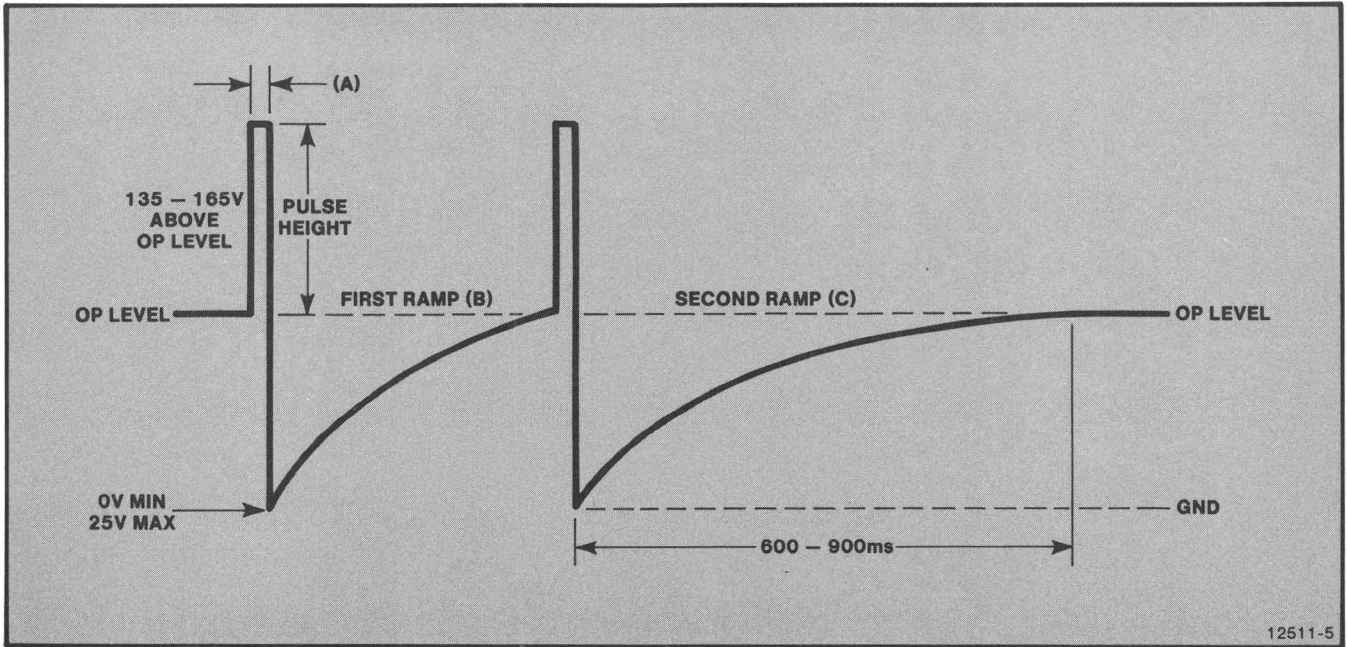

Figure 4-5. Target Erase Waveform.
10. **Refer** to the target erase waveform (Figure 4-5) and do the following:
12. **Observe** the first ramp, shown as (b) in Figure 4-5.
16. **Observe** the pulse waveform shown in Figure 4-7. This waveform is also indicated as (a) in Figure 4-5.)